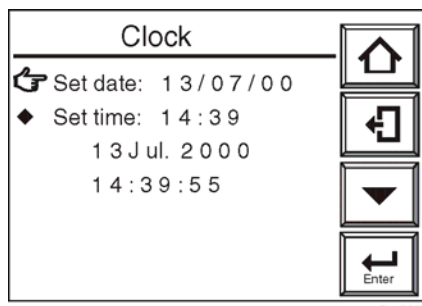

Figure 8-14 Clock Display
4. Select Clock. The Clock display screen then appears, as shown in Figure 8-14.